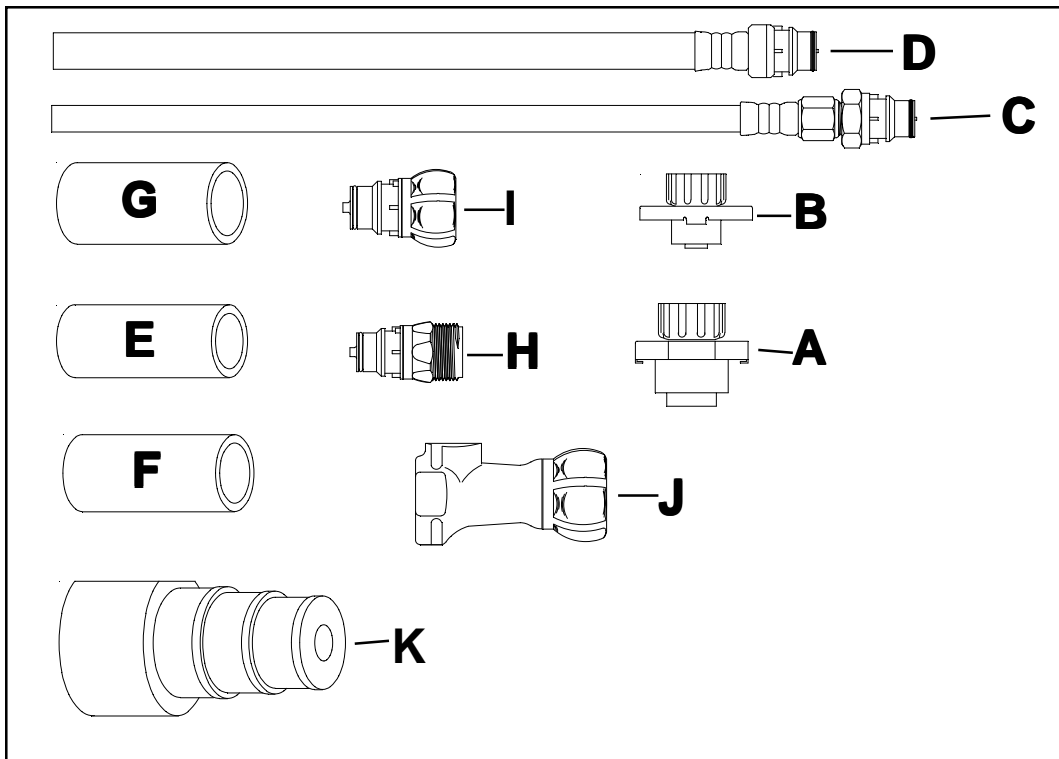

Figure 3 — Items Shipped With Unit
1. Unpack all materials listed below (and shown in Figure 3). Check to see that you have the following items: